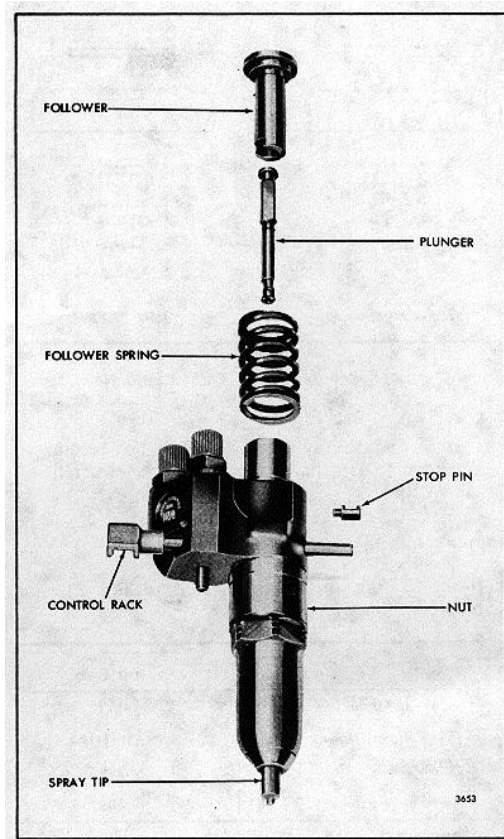

Fig. 37. Injector Plunger, Follower and Relative Location of Parts
1. Refer to Fig. 37 and slide the head of the plunger into the follower.